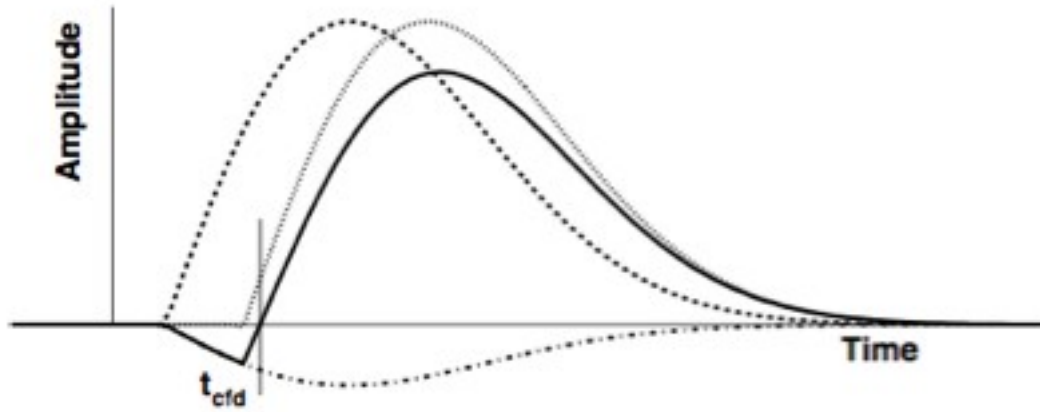

Figure 9. CFD function diagram.
Fig. 9 shows in detail the signals in the bottom branch of the CFD. The input pulse (dashed curve) is delayed (dotted) and added to an attenuated inverted pulse (dash-dot) yielding a bipolar pulse (solid curve). The output of the bottom branch fires when the bipolar pulse changes polarity which is indicated by time t_{cfd} . From a practical point of view, a small threshold, as close as possible, is actually used in the final comparator of the bottom branch. This is needed to avoid fake signals possibly caused by the noise. Such a small threshold is normally called walk (Z).